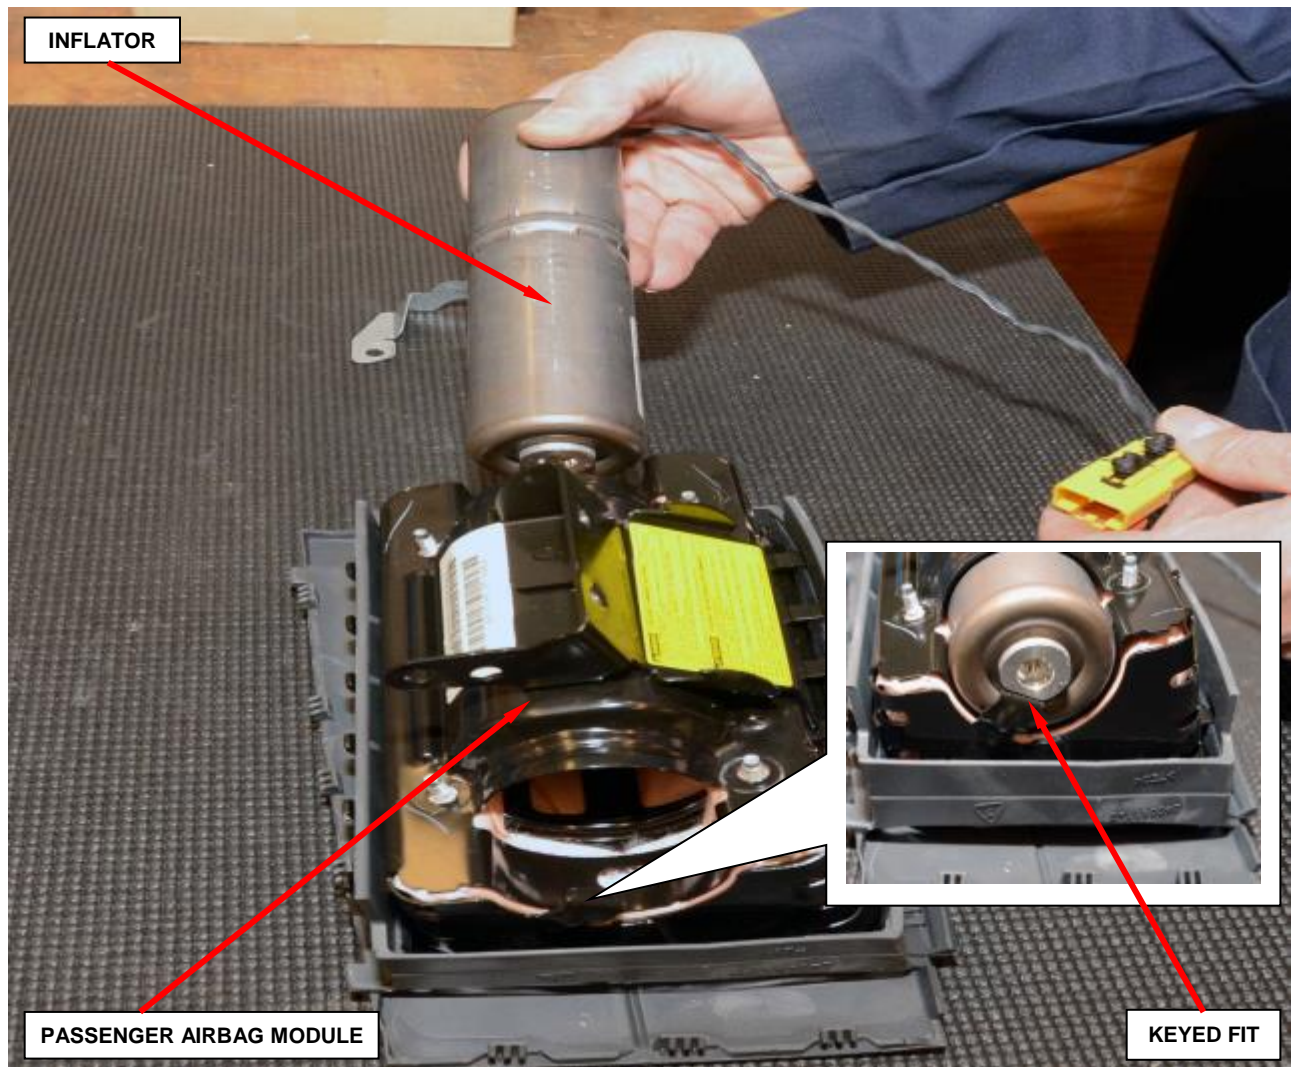

Figure 159 – Passenger Inflator Installation
NOTE: The inflator's key **MUST** line up with the housing's key (Figure 159).
- o. Slide the **new** inflator into the passenger airbag module (Figure 159).
NOTE: The inflator is keyed to fit into the housing (Figure 159).